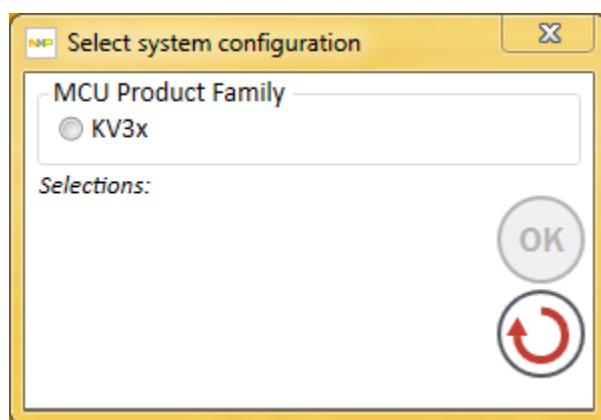

Figure 15. Select MCU product family
1. Select the MCU Product Family (Figure 15).